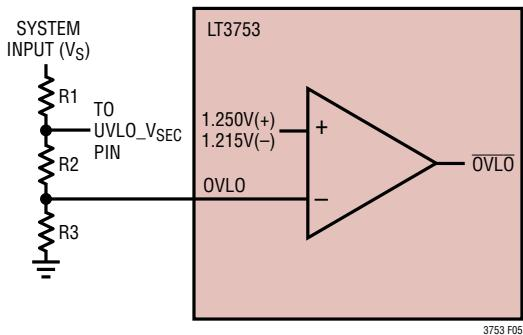

Figure 5. Programming Overvoltage Lockout (OVLO)
The LT3753 has an accurate 1.25V overvoltage shutdown threshold at the OVLO pin. This threshold can be used in conjunction with an external resistor divider to define the rising overvoltage lockout threshold (OVLO(+)) for the converter's system input voltage (VS) (Figure 5). When OVLO(+) is reached, the part stops switching immediately and a hard stop discharges the SS1 and SS2 pins. The falling threshold OVLO(-) is fixed internally at 1.215V and allows the part to restart in soft-start mode. A single resistor divider can be used from system input supply (VS) to define both the undervoltage and overvoltage thresholds for the system. Minimum value for R3 is 1k. If OVLO is unused, place a 10k resistor from OVLO pin to ground.